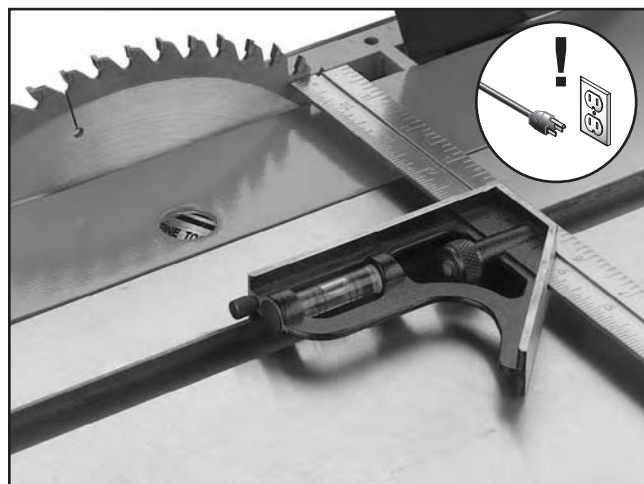

Figure 113. Example of adjusting blade to miter slot.
2. Use an adjustable square to measure the distance from the miter slot to a carbide tip on the blade, as shown in **Figure 113**. Make sure that the face of the adjustable square is even along the miter slot.